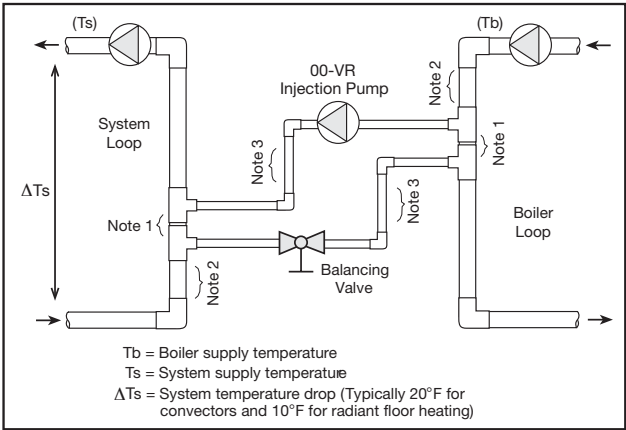

Figure 1
When the injection pump is turned off, there must be no heat transfer from the boiler loop to the system loop. In order to avoid this unwanted heat transfer, primary/secondary piping techniques are used as shown in Figure 1.
1. Determine the design operating temperatures of the system loop and boiler. (Ts and Tb from Figure 1.)